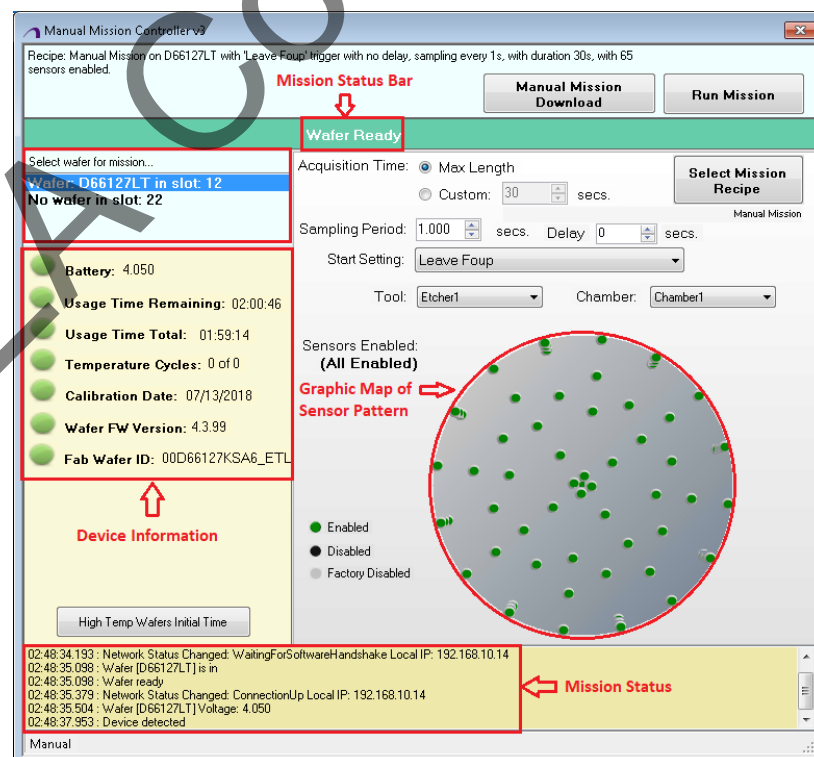

Figure 5-22 Manual Mission Controller window
4. Connect the network cable between AM FOUP and Laptop. The **Manual Mission** communication window will display the wafer map and the device information, as shown in Figure 5-22.
1. Select the ET LT wafer from the **Select wafer for mission...** panel, as shown in Figure 5-22.